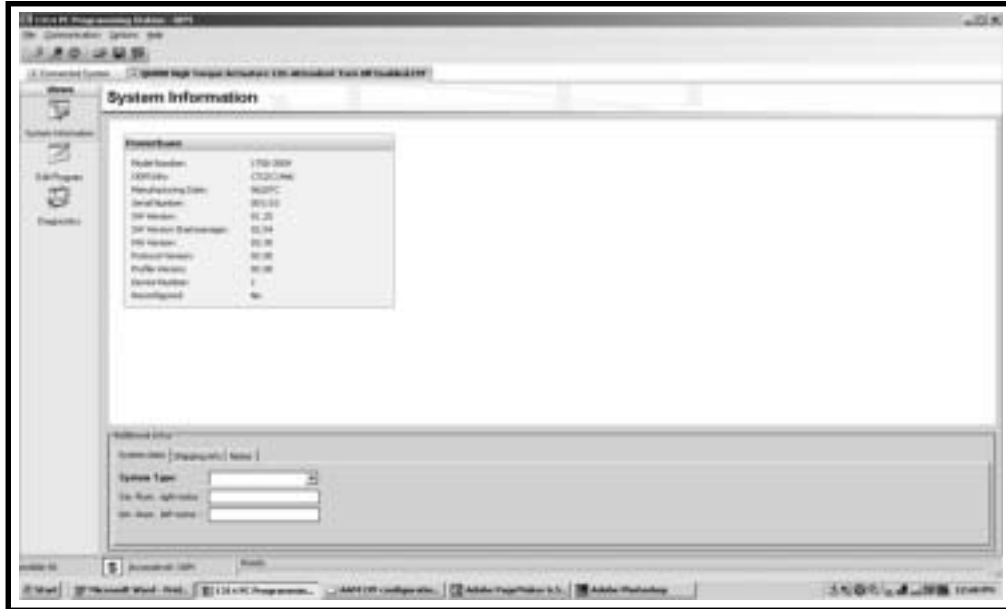

Figure 50. PCPS Program Selection Display Screen
19. Select the power module program file to open in the 1314 Programming Station. There will now be two files connected to the system, indicated by the different screen tabs. One will be called Connected System and the other will show the name of the saved program file. See figure 50.